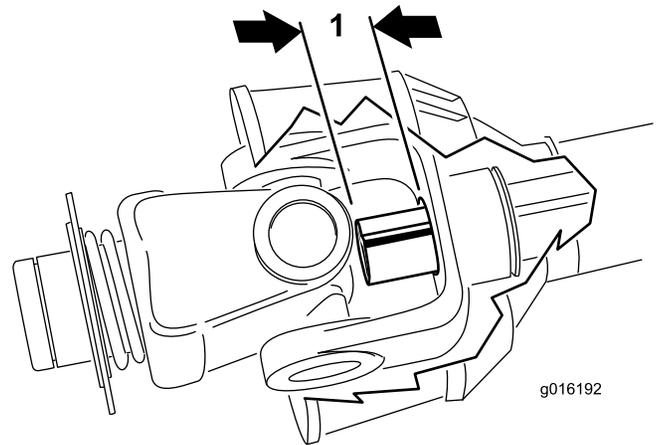

Figure 17
protrude into the cross and bearing section of the outer tube (Figure 17). If this happens, **more** will have to be cut off the inside tube, to correct the problem. Proceed to next step.
10. Measure the distance the inside tube protrudes into the cross and bearing section of the outer tube (Figure 17). Add this distance to the dimension attained in step 8.